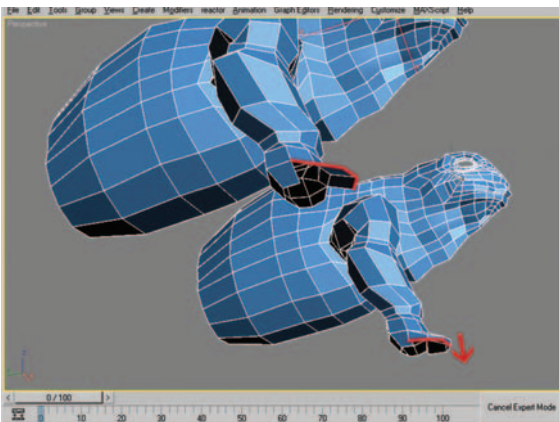

Figure 9.53 Edge selection before and after performing shift-drag.
14. Select the three edges shown in Figure 9.53 (left) and shift-drag them downward to roughly the same height/location as the rear edges we created in the previous step (Figure 9.53, right).